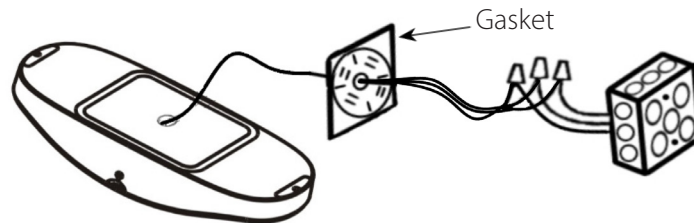

Figure 3 - Back Mount
- Feed the power supply through the knockout. Run the wires through the mounting bracket as seen in "Figure 3 - Back Mount."